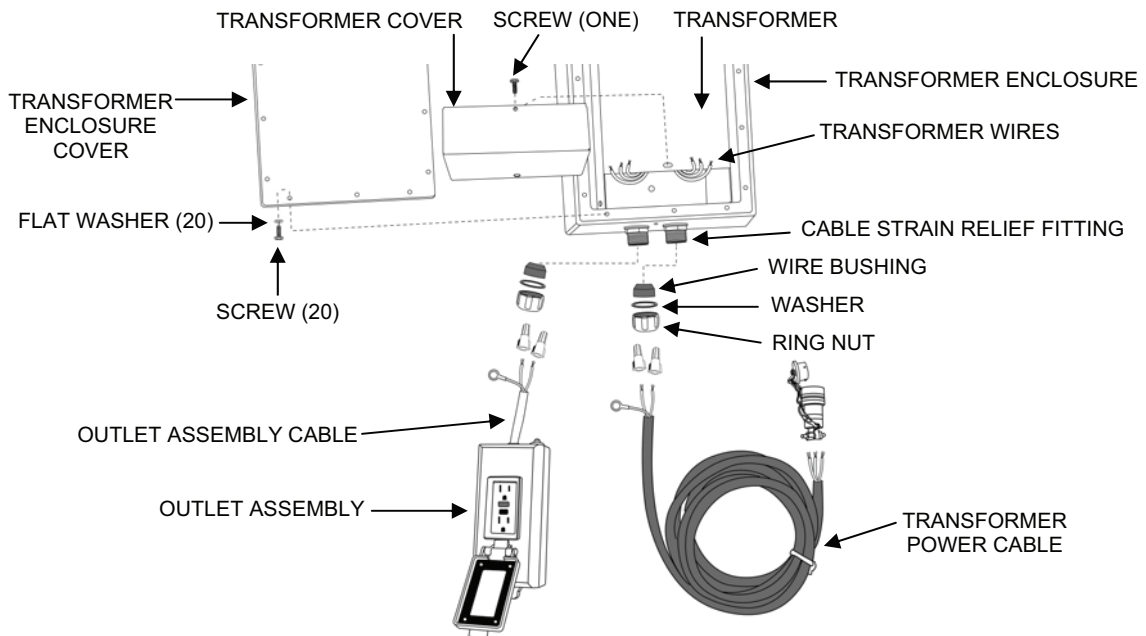

Figure 17. General Purpose Transformer Cable Removal.
5. Disconnect the electrical outlet assembly cable or power cable from the transformer as follows (see Figure 17):
6. Connect the new electrical outlet assembly cable or power cable from the transformer as follows (see Figure 17):